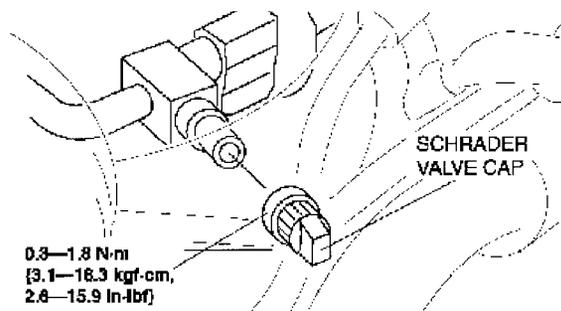

Figure MA014-11
2. Remove the fuel line Schrader valve cap located under the throttle body (Figure MA014-11).